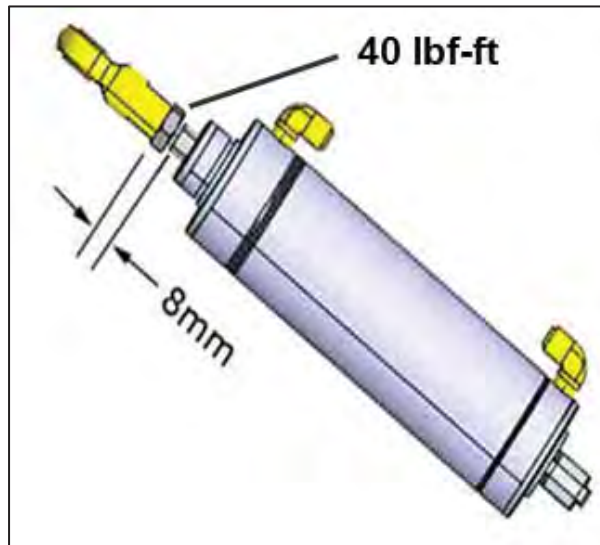

Figure 5
- 1) On fore and aft cylinder, adjust rod end to dimension shown in fig. 5.